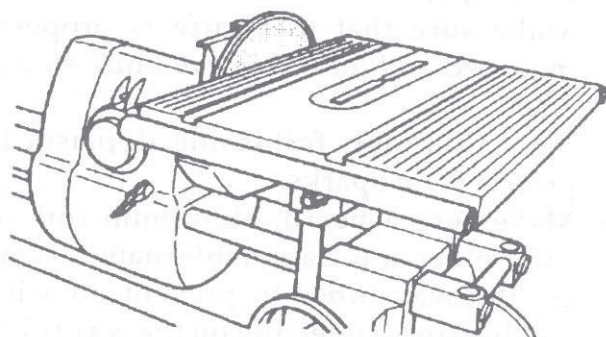

Figure 2
- Mark V Model 510 and 520 owners, attach the lower saw guard to the quill collar, as in Figure 2.